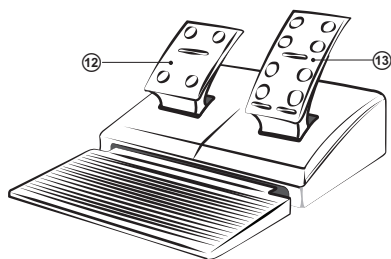

Fig. 2. Foot pedal unit
- Connect pedal unit (Fig. 2) to the device via cable of the pedal unit to RJ-11 jack ⑩, then connect USB cable ⑮ of the device to the USB port of the computer.